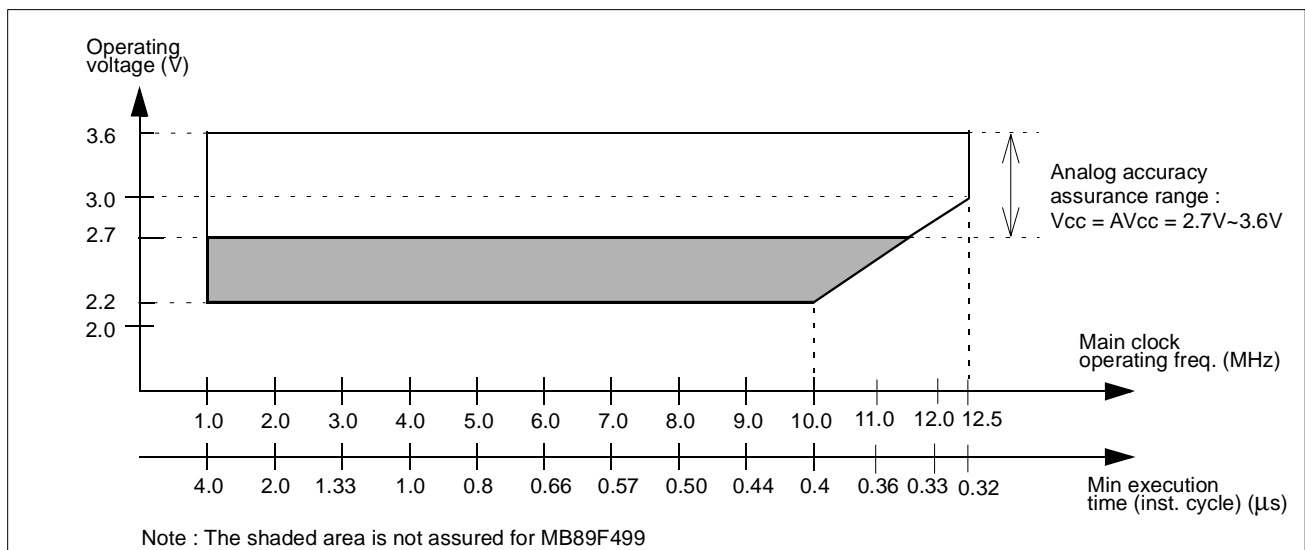

Figure 1 Operating Voltage vs. Main Clock Operating Frequency (MB89F499/497/498)
* : These values depend on the operating conditions and the analog assurance range. See Figure 1, 2 and "5. A/D Converter Electrical Characteristics."
Figure 1 and 2 indicate the operating frequency of the external oscillator at an instruction cycle of $4/F_{CH}$.